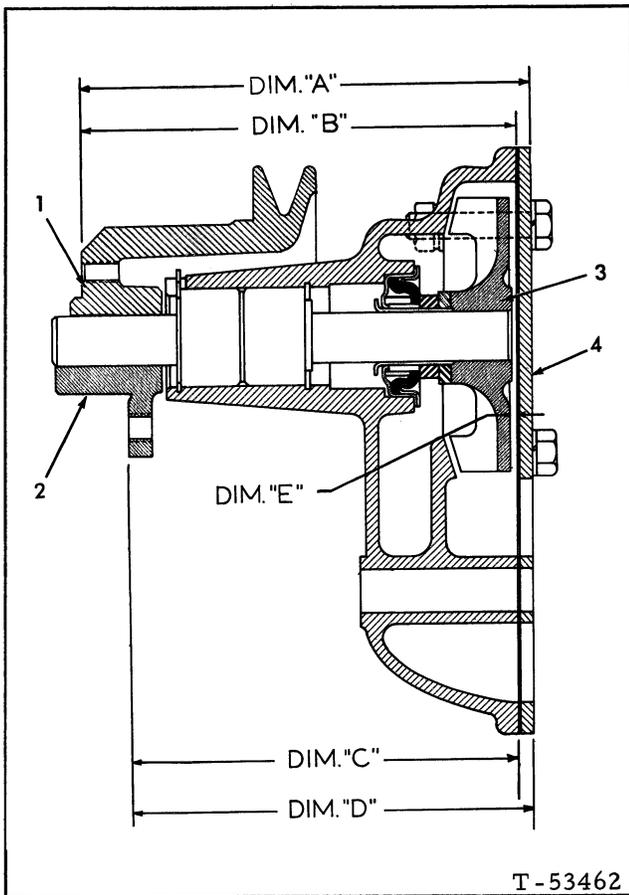

FIG. 17 PULLEY AND HUB LOCATIONS
- a. Press pulley onto shaft to obtain specified dimension of 5.20" (132.08mm) (See Fig. 17) from end of pulley to machined surface of pump body.
- b. Press pulley hub onto shaft to obtain specified dimension from pulley mounting face of hub to machined surface of pump body. See Fig. 17.
NOTE: If pulley is pressed onto shaft, the final overall dimension of the water pump from end of pulley to outside surface of the cover is 5.39" (136.90mm). If pulley hub is pressed onto shaft, the final overall dimension of the water pump from pulley mounting face of hub to outside surface of the cover is 4.94" (125.47mm). See Fig. 17. Compare above meas-